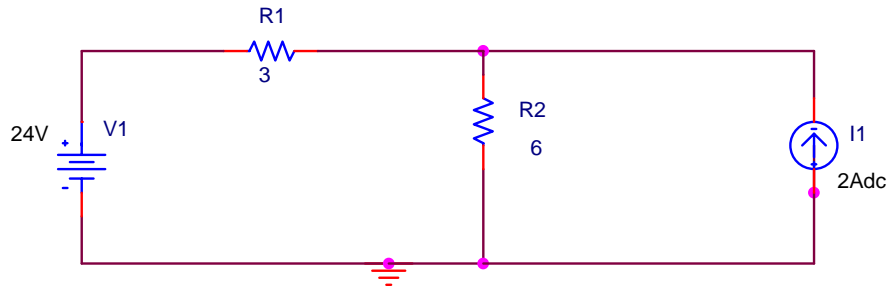

Figure 1.1 Circuit used for node-voltage analysis
Before simulations can be carried out, a circuit schematic such as shown in Figure 1.1 must be built in PSpice. The eventual object is to find, and verify with Pspice, the current in R1 and R2 and the voltage in the current source.
1) The same steps must be followed in creating this circuit as was done for Figure 1.1. First, close the project created in section 1 by selecting file->close then file->close project. Next create a new project as was done previously. Follow the same steps from the “Getting started” section. The only new part used here is the “H”.